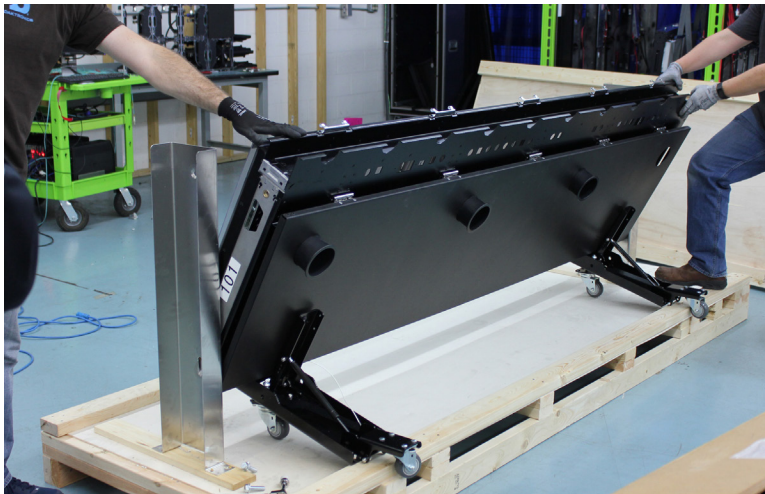

Figure 16: Tilt Table Backward
4. Tilt the table backward so that the caster base/wheels are resting on the crate. Refer to **Figure 16**.